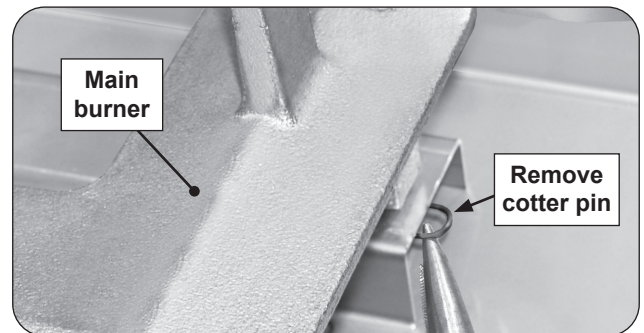

Fig. 44-2 Remove cotter pin
2. Locate and remove the cotter pin from the left or right rear burner anchoring peg by pulling it straight out of the cotter pin hole using fingers or needle-nose pliers. See Fig. 44-2.